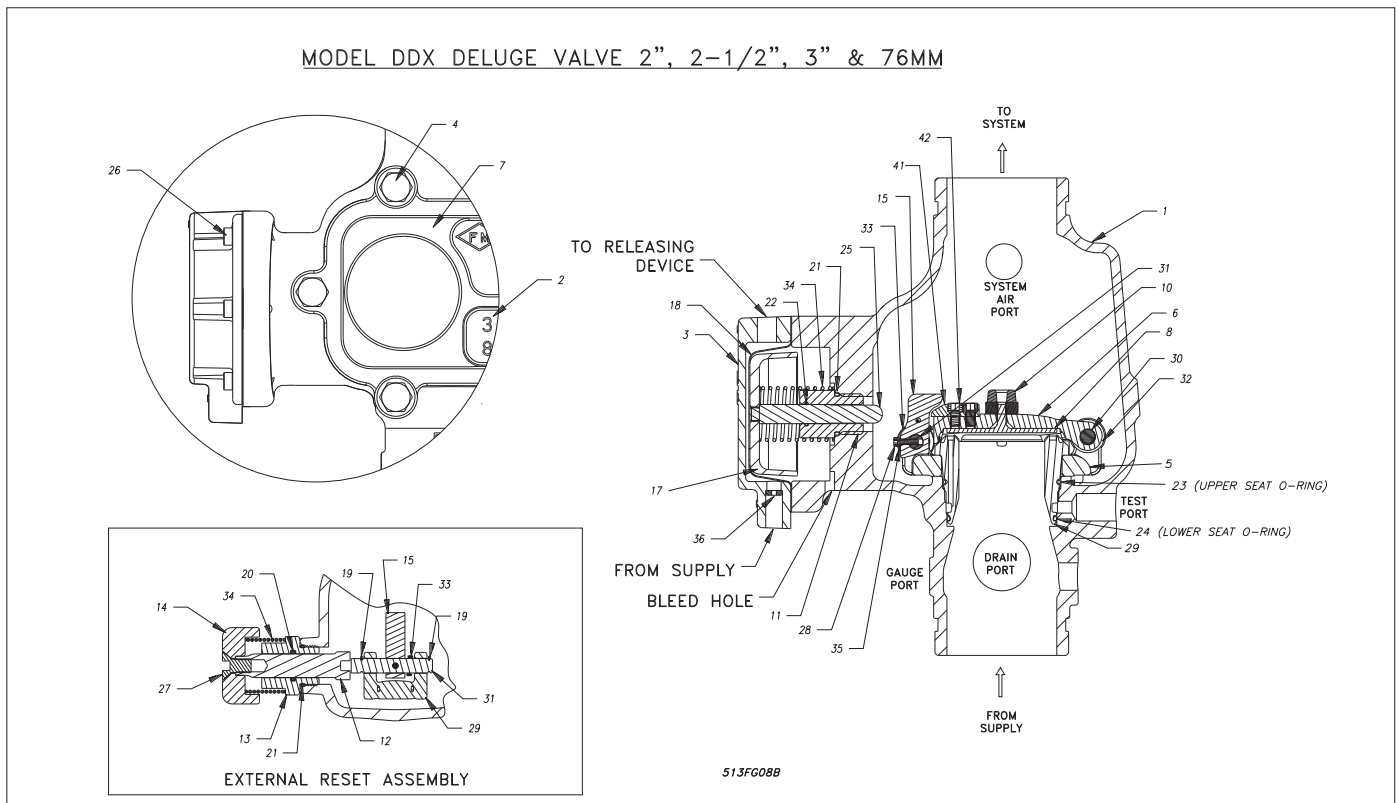

Fig. 5
7. With the Model B Manual Emergency Station, valve D (Fig. 6), open, push in and rotate the Deluge Valve's external reset knob (#14, Fig. 5) clockwise until you hear a distinct clicking noise, indicating that the clapper has closed. **Note:** The reset knob can be rotated only after pressure in the pushrod chamber is reduced to atmospheric conditions (0 psig).
Valve's water seat is tight. Inspect the bleed hole (see Fig. 5) on the underside of the push rod chamber for leakage.
This condition can be caused by leakage past the system side of the Model DDX Deluge Valve’s seal faceplate subassembly (#8, Fig. 5). Be sure that this surface is free of any type of debris. To eliminate leakage due to a water column, refer to the section in this bulletin marked “Draining Excess/Condensate Water From System”. If the problem continues proceed to the following section.
If system air is leaking out the ball drip valve, the problem is either damage to the airside of the Model DDX Deluge Valve’s seal faceplate subassembly (#8, Fig. 5), seat (#29, Fig. 5), or the upper seat O-ring (#23, Fig. 5). If supply water is leaking out the ball drip valve, the problem could be caused by damage to the Model DDX Deluge Valve’s seal faceplate sub-assembly (#8, Fig. 5), seat (#29, Fig. 5), or lower seat O-ring (#24, Fig. 5). The following section provides instructions to correct both conditions:
B) Remove the Deluge Valve’s front (handhold) cover (#7, Fig. 5) and inspect the seat (#29, Fig. 5), clapper (#6, Fig. 5), and seal faceplate subassembly (#8, Fig. 5) for damage.
If inspection indicates damage to the seal faceplate sub-assembly (#8, Fig. 5), replace as follows:
Remove the bump stop nut subassembly (#10, Fig. 5) and remove the seal assembly (#8, Fig. 5). Install a new seal assembly (#8, Fig. 5) and thread the bump stop nut (#10, Fig. 5) onto the threaded stud of the seal sub-assembly (#8, Fig. 5) and tighten finger tight plus 1/4 to 1/2 turn.
If inspection indicates damage to the clapper (#6, Fig. 5) only, then the clapper sub-assembly can be removed as follows:
At the rear of the valve, disconnect the water column drain trim section starting with the elbow connector (#23, Fig. 2). Then remove the 1/4” angle valve (#63, Fig. 2), followed by the 3/4” x 1/4” reducing bushing (#7, Fig. 2). Remove the retaining ring (handhold cover side) from the clapper hinge pin (#30, Fig. 5) and push this pin through the water column drain line and remove the clapper subassembly. Replace the seal sub-assembly as described previously. Inspect the clapper (#6, Fig. 5) visually before reinstalling. Reinstall in the reverse order making sure the clapper spacers are in their proper position. If the seat (#29, Fig. 5) is damaged or it is suspected that the leakage is through the lower O-ring (#24, Fig. 5), the seat-clapper subassembly is easily removed as a unit as follows:
Using Reliable P/N 6881603000 Seat Wrench, remove the seat by unscrewing. This will loosen the seat-clapper-mounting ring subassembly. Reach into the valve and grasp the seat-clapper subassembly and remove it from the valve. Visually examine all components of the seat-clapper-mounting ring sub-assembly replacing any component that appears damaged. New O-rings (#23 & #24, Fig. 5) should always be used for reassembly.
Clean the bore of the valve body. Lubricate the bore with O-ring grease. Lubricate and install the O-rings (#23 & #24, Fig. 5) onto the seat. Insert the seat-clapper-mounting ring sub-assembly into the handhold opening of the Deluge Valve. Align the mounting ring so that the Lever (#15, Fig. 5) is near the pushrod (#25, Fig. 5) and the mounting ring (#5, Fig. 5) "ears" are between the tabs of the valve body (#1, Fig. 5). Start to tread the seat (#29, Fig. 5) into the body by hand, then tighten until the seat (#29, Fig. 5) with seat wrench 6881603000
until it bottoms out on the mounting ring (#5, Fig. 5). Verify that the seat-clapper-mounting ring subassembly is in the fully down position between the tabs of the body, and check to see that the lever (#15, Fig. 5) lines up with the push rod (#25, Fig. 5). Loosen and reassemble if necessary. Reassemble the handhold cover (#7, Fig. 5) and set up the Model DDX Deluge Valve as per the section "Resetting Model DDX Deluge Valve Systems."
A small bleed hole is located on the underside of the push rod chamber (see Fig. 5). If there is air or water leakage coming out of this hole, do the following:
- b) Remove the trim at the unions nearest to the push-rod chamber cover (#3, Fig. 5)
- c) Take the push rod chamber cover (#3, Fig. 5) off by removing the six retaining screws (#26, Fig. 5).
Water coming out of the bleed hole is caused by a leaking diaphragm (#18, Fig. 5). Visually inspect the push rod chamber cover (#3, Fig. 5) and piston (#17, Fig. 5) to determine what could have damaged the diaphragm and correct. Install a new diaphragm. **NOTE:** The diaphragm has two different surfaces, it is not bi-directional. It will fail if installed backwards! Roll the diaphragm so that the smooth surface (the pressure side) conforms to the inside of the push rod chamber cover and reassemble the six retaining screws (#26, Fig. 5) with an installation torque of 15 foot-pounds. Set up the Model DDX Deluge Valve as per the section "Resetting the Type D Double Interlock Preaction System"